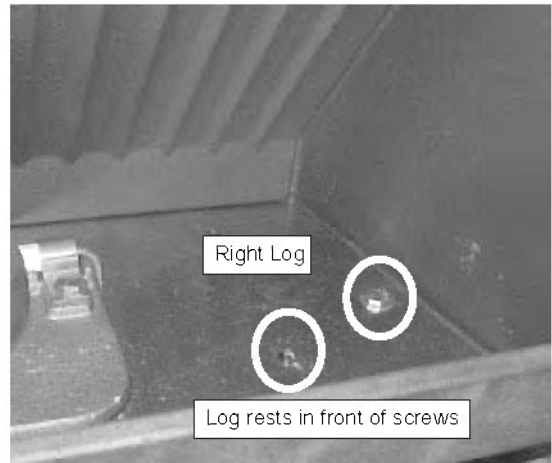

Figure 22.3
2. Place the right log in front of the 2 screw heads in the firebox. **Figures 22.3 and 22.4.**